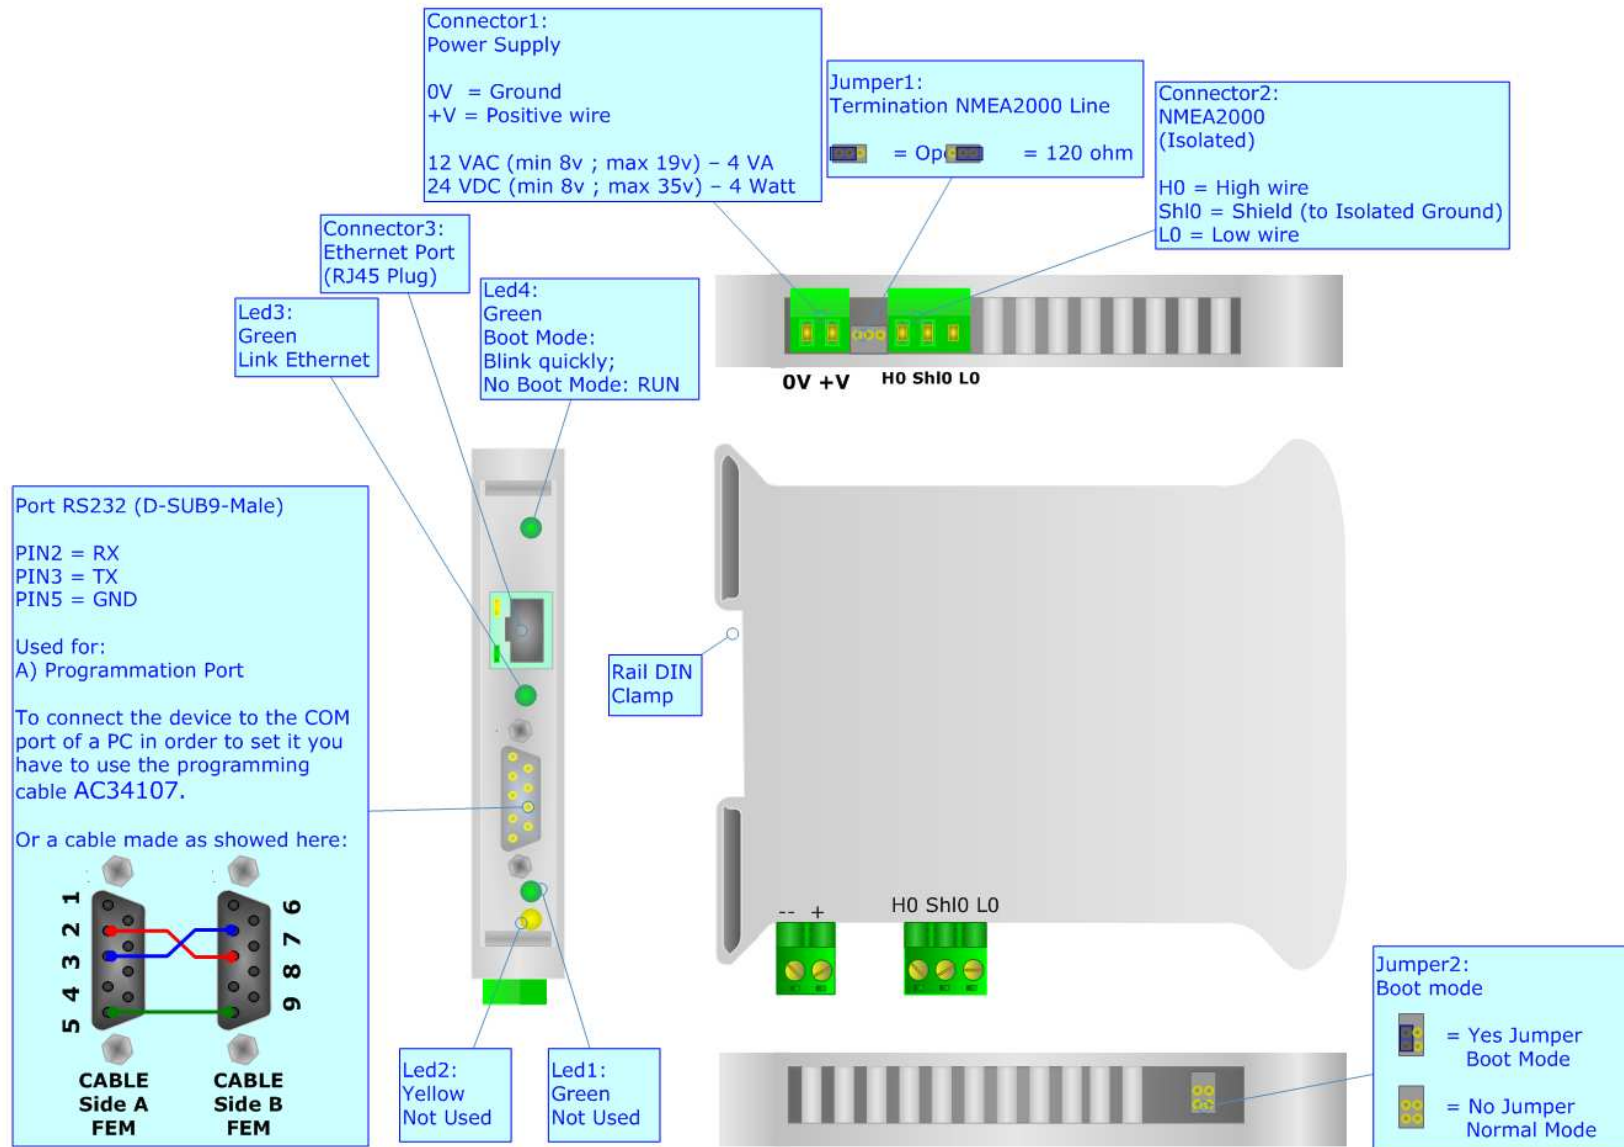

Figure 1: Connection scheme HD67223-A1
- Insert the Boot Jumper (see the Fig. 1 for more info);
- Check the "BOOT Led". It must to blink quickly (See the Fig. 1 for more info);